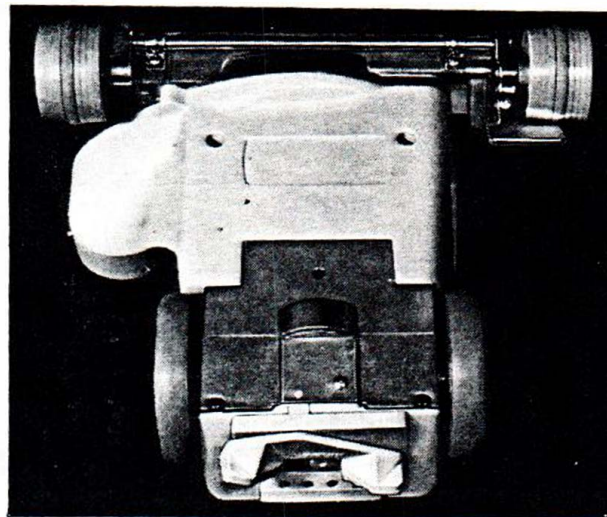

Figure 9. Bottom of Drive System Assembly Housing
- C. Turn the still assembled components of the power unit over as shown in Figure 9.